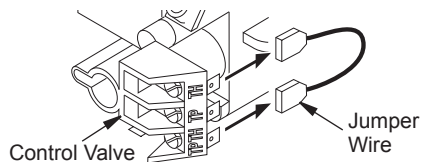

Figure 19 - Disconnecting Jumper Wire From Control Valve
7. Disconnect jumper wire from control valve at TPTH and TH locations (see Figure 19).